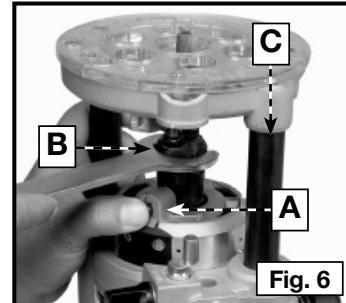
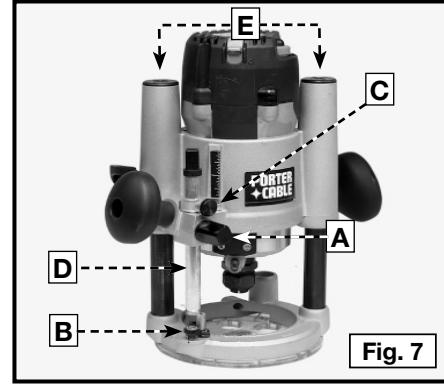
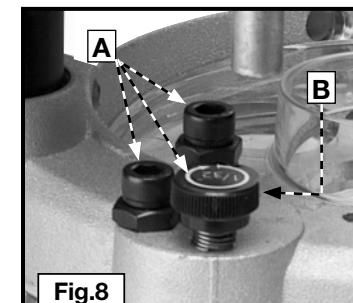
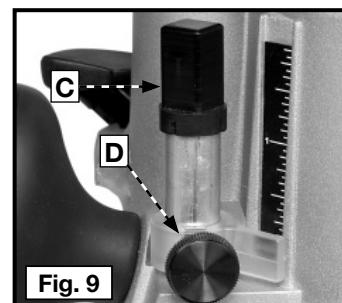

Fig. 6
Fig. 7
Fig. 8
Fig. 9
CAUTION If you remove the springs from the posts (E) Fig. 7 to use the plunge base in a router table, remove the post plugs carefully. They are spring-loaded and should be removed only when the base housing is in the "up" position (Fig. 6).
1. Loosen the depth rod locking knob (A) Fig. 7, and depth indicator knob (C) Fig. 7, allowing the depth rod (D) Fig. 7 to contact one of the turret stops (A) Fig. 8. Normally the deepest desired cut is set with the depth rod resting on the base casting (B) Fig. 7. You can adjust the other three adjustable stops (A) Fig. 8 to any desired height. You can also utilize any combination of fixed and/or adjustable stops to achieve the desired depths required for a particular job. The adjustable stop (B) Fig. 8 will raise or lower that stop by 1/32" with one full turn of the stop.
3. Tighten the depth-rod locking knob (A) Fig. 7.
4. Position the depth indicator (C) Fig. 9 at the "0" position and tighten the knob (C) Fig. 7.
5. Loosen the depth-rod locking knob (A) Fig. 7, and raise until the indicator aligns with the graduation representing the desired depth of plunge (Fig. 9).